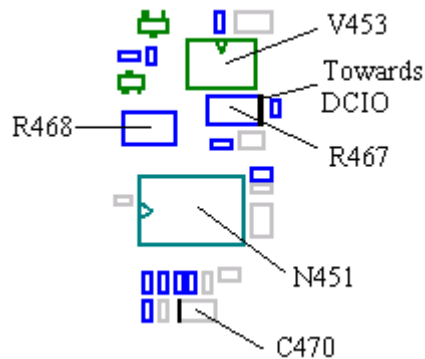

Fig. 6.6
- If it is too high, measure the resistance in R468 (class B, ~0.1 ohms) and R467 (Class A, ~390 ohms, all displayed in fig. 6.6).
Give the board power and start it by grounding N451 pin 6 (fig. 6.6).
- If it doesn't start, replace V453 (class B, fig. 6.6).
- If the resistance is too high, measure R468 (class B, ~0.1 ohms) and R467 (class A, ~390 ohms, both of the on fig. 6.6).